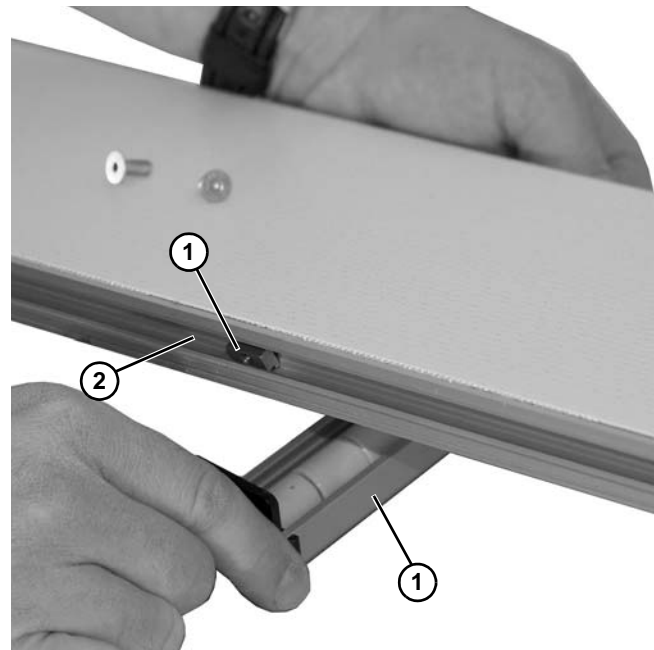

Figure 11
3. Insert one T-bar (Figure 11, item 1) into conveyor side slots (Figure 11, item 2) with a needle nose pliers.
4. Install roller assembly (Figure 11, item 1) as shown.